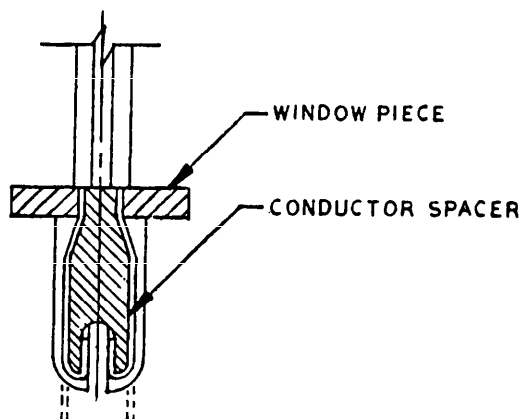

FIGURE 4. Conductor forming.
- C. Using a tool to hold the bare conductors in the respective grooves of the conductor spacer, bend the conductor at right angle and then into the insulator groove. See Figure 4 (Conductor Forming). Repeat bending operation for conductors of other cable.